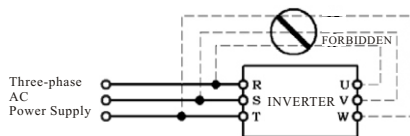

Figure 1-2
- DO NOT connect AC power supply to the output terminals marked "U", "V" and "W". Otherwise, it may cause damage to the inverter, as shown in the Figure 1-2.